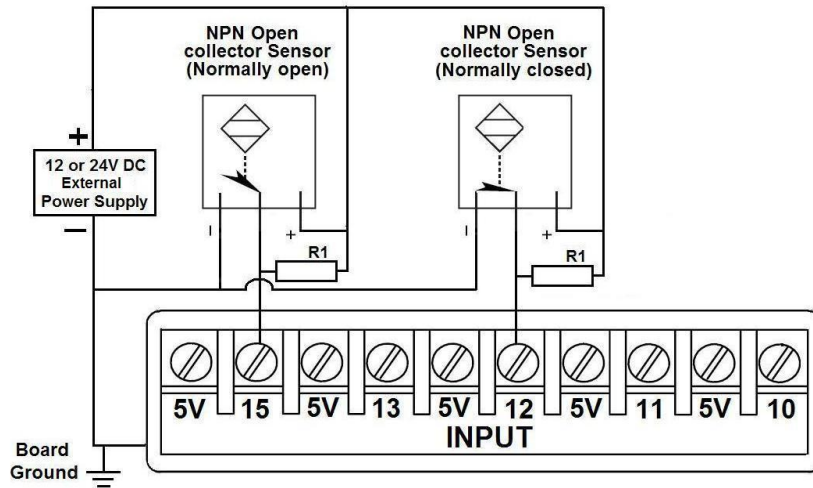

Fig. 8 Wiring diagram to connect NPN open collector proximity sensors
**For Configuring the *Charge Pump* in *Mach X*:** Use the dialog *Config / Ports and pins / Output Signals*. Enable the *Charge Pump* output and configures it as is shown in the Fig. 8 Next, press the *apply* button.